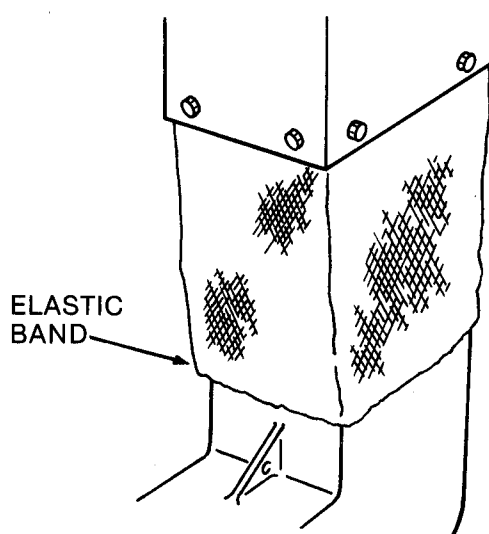

FIG. 16 - SLIP CLOTH ADAPTER OVER BLOWER
Step 15: Lift the container box and place on the support brackets, align the four mounting holes and secure with the four 3/8Cx1 hex flange lockbolts and flange hex locknuts. Hold the container approximately level and securely tighten the bolts holding the support brackets to the frame.(Figure 16)